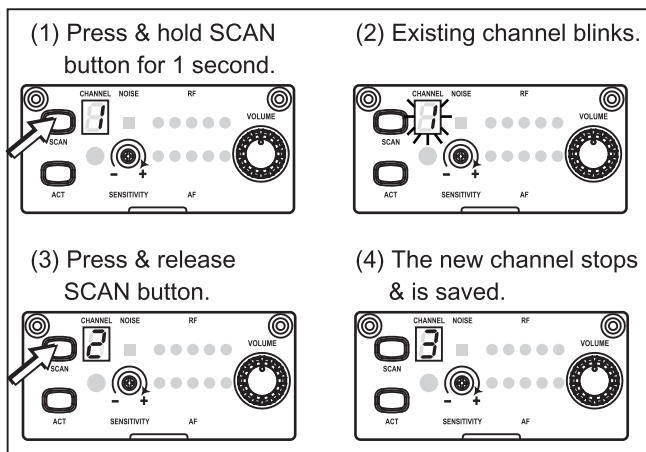

Fig. 2
(A) Scan Automatically for a Receiver Channel: Press & hold SCAN button **6** for 1 second, channel number in LED screen starts blinking. Press and release SCAN button once will automatically scans the environment and stops at the next open, interference-free channel. The new channel appears on the display. Fig. 2